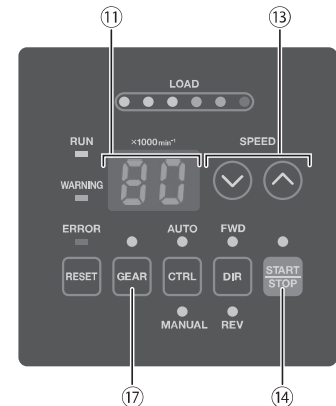

Fig. 28
- (4) Motor Start / Stop (Motor Start / Stop by pushing the START / STOP Button (START / STOP) ⑭ of the Fig. 28.)
- (5) Setting Motor Speed (Set the Motor Speed Adjustment Button (SPEED ⬆, ⬇) ⑬ of the Fig. 28.)
(3) Setting Gear Ratio (Set the Gear Mode Select Button (GEAR) ⑰ of the Fig. 28.)
(5) Setting the Motor Speed
Setting parameter **P2** to ON allows the motor speed to be adjusted in Auto Mode using the Motor Speed Adjustment Button (SPEED , ) ⑬ of the Fig. 28.